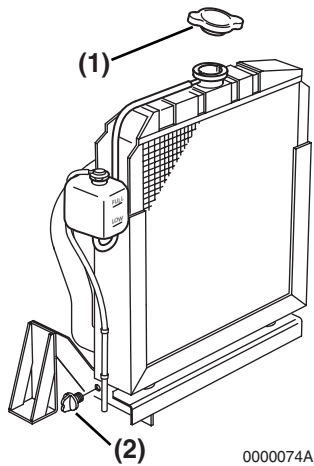

Figure 18
1. Remove the radiator cap (**Figure 18, (1)**).
2. Remove the drain plug or open the drain cock (**Figure 18, (2)**) at the lower portion of the radiator and drain the engine coolant.